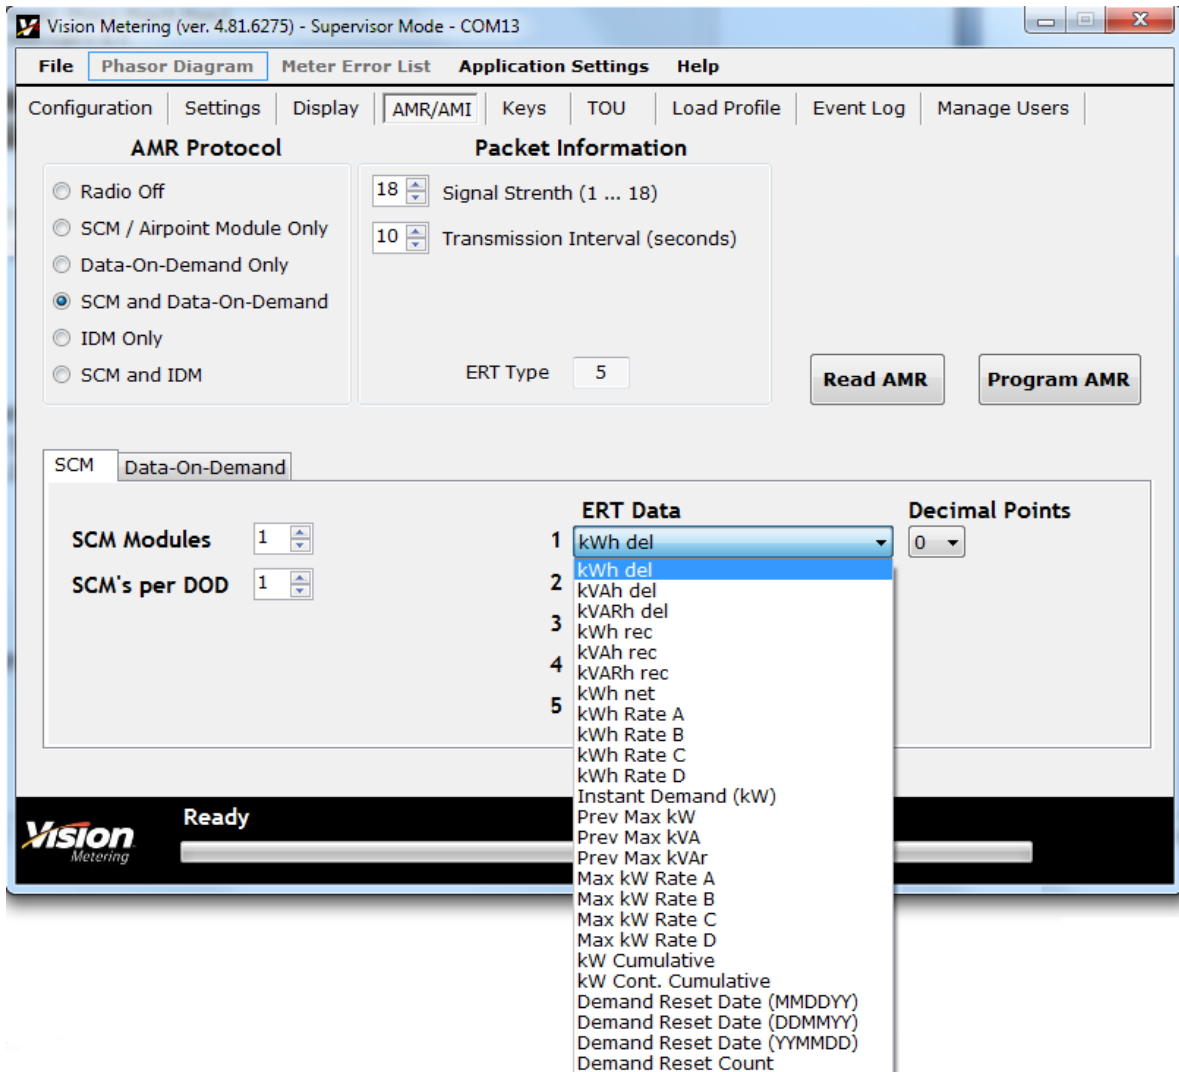

Figure 23
- By clicking the dropdown menu for each ERT it is possible to select the desired value to transmit as well as set the desired number of decimals to display. This is shown in **Figure 23**